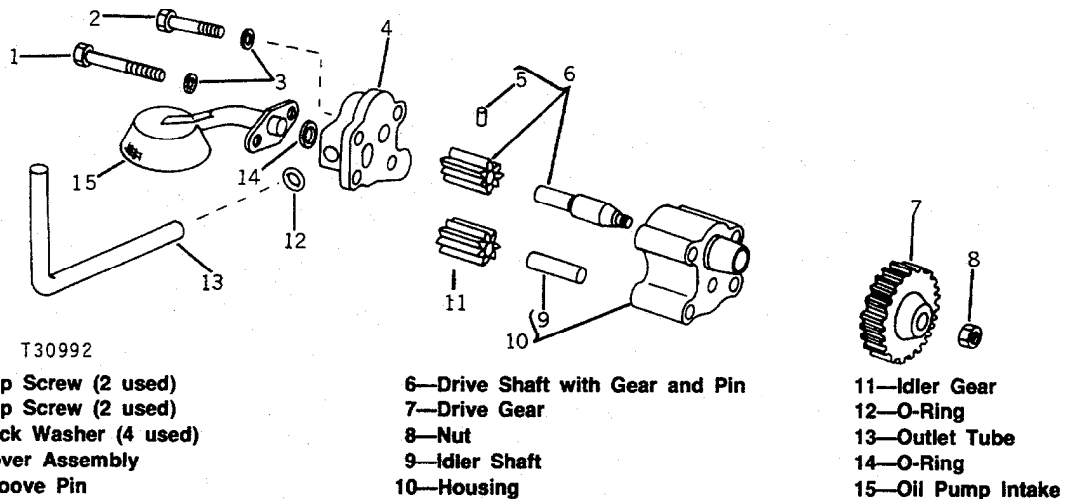

Fig. 1-Oil Pump
Remove idler gear (11, Fig. 1) from idler shaft (19); then support housing and press out shaft.